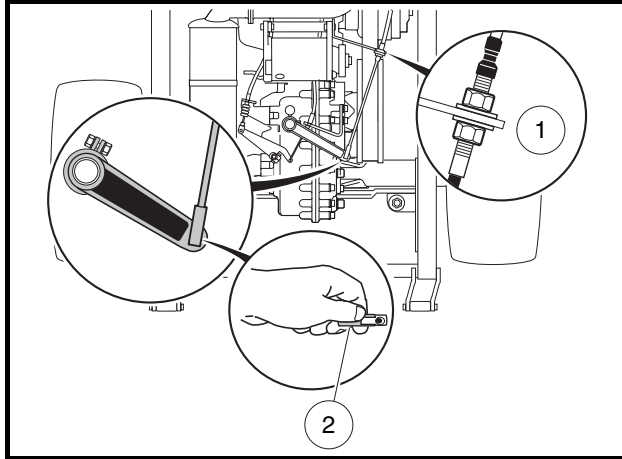

Figure 19-45 Shifter Cable (Top View)
22. Position the shifter cable in the shifter cable mounting bracket on the engine and tighten the mounting nuts to 22 ft-lb (29.8 N·m). Connect shifter cable rod end to the shifter arm (**Figure 19-45, Page 19-17**).